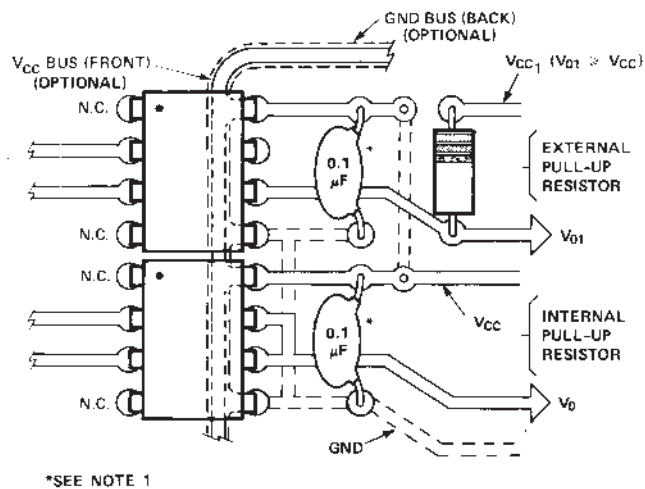

Figure 19. Recommended printed circuit board layout.
1. Bypassing the power supply line is required with a  $0.1 \mu\text{F}$  ceramic disc capacitor adjacent to each optocoupler as illustrated in Figure 19. The power supply bus for the optocoupler(s) should be separate from the bus for any active loads, otherwise a larger value of bypass capacitor (up to  $0.5 \mu\text{F}$ ) may be needed to suppress regenerative feedback via the power supply.
A recommended layout for use with an internal 1000  $\Omega$  resistor or an external pull-up resistor and required  $V_{CC}$  bypass capacitor is given in Figure 19.  $V_{CC1}$  is used with an external pull-up resistor for output voltage levels ( $V_O$ ) greater than or equal to 5 V. As illustrated in Figure 19, an optional  $V_{CC}$  and GND trace can be located between the input and the output leads of the HCPL-2300/HCPL-0300 to provide additional noise immunity at the compromise of insulation capability ( $V_{I-O}$ ).